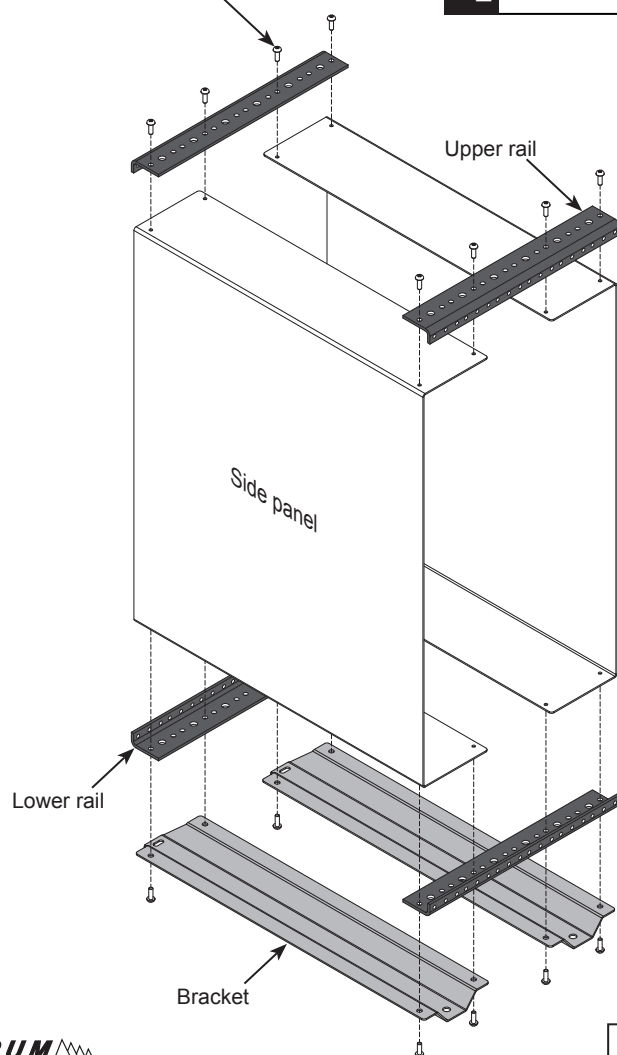

Figure 1
1. Align the cube sides, four rack rails, and brackets as shown. **Figure 1.**
2. Assemble with (16) 8-32 x 1/2" PH thread-cutting screws. Note the orientation of the rails. The lower rails will also get sandwiched between the side panels and brackets.